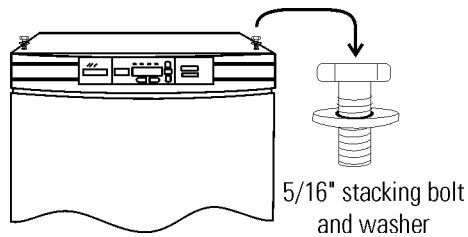

Figure 1-6. Bolt Holes
- Remove the two plastic plugs from the bolt holes in the exterior top of the bottom unit. Install the 1/2" long 5/16-18 stacking bolts and washers into the bolt holes - do not tighten the bolts at this time. Refer to Figure 1-6.